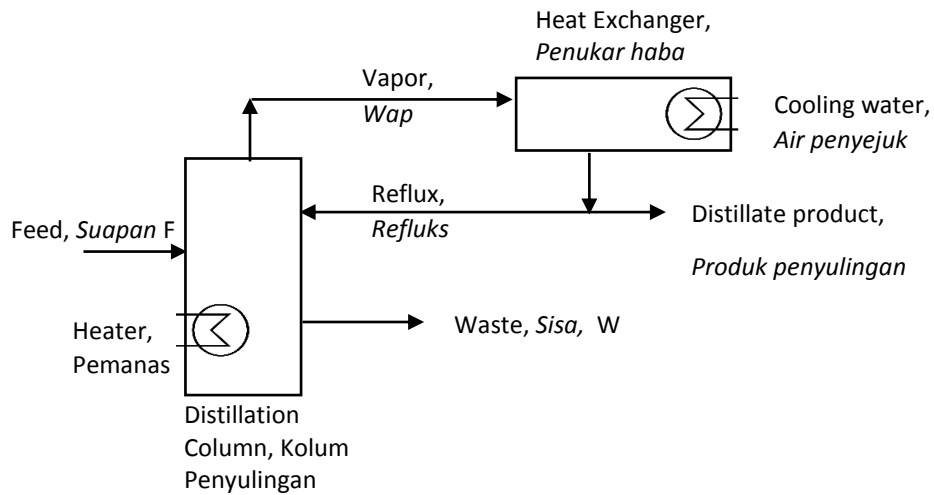

Figure 3: Continuous Distillation Column of Benzene Production
- (b). Figure 3 shows the process of continuous distillation of benzene production. A binary mixture consists of 35 % benzene and 65% toluene are continuously fed to the distillation column at a rate of 1000 kg/h. The distillate flow rate was 10% from the feed flow rate. The distillate product contains 85% benzene. Calculate quantity and compositions of the waste stream.